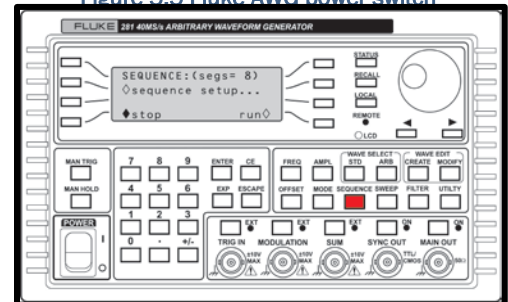

Figure 5.6 Selecting the Sequence control screen
2. Locate the SEQUENCE button and press once to bring up the Sequence control screen on the LCD display (see **Figure 5.6**).